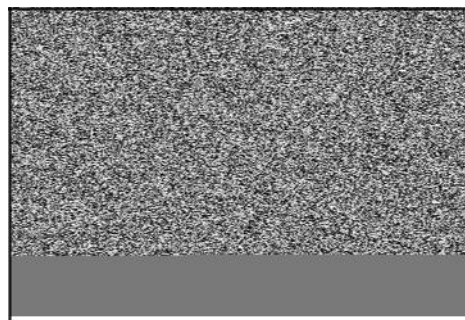

Figure 21
3. Start screws (A, Figure 21) at exhaust pipe but do not tighten.
4. Start screw (B) in muffler bracket to cylinder head.
5. Start screw (C) in muffler to cylinder bracket.